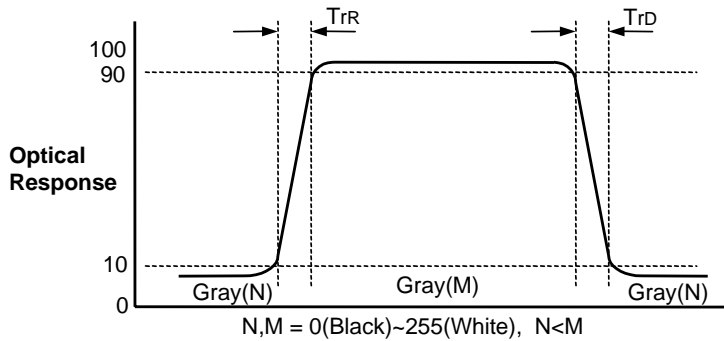

FIG.3 Response Time
4. Response time is the time required for the display to transition from G(N) to G(M) (Rise Time,  $Tr_R$ ) and from G(M) to G(N) (Decay Time,  $Tr_D$ ). For additional information see the FIG. 3. ( $N < M$ )